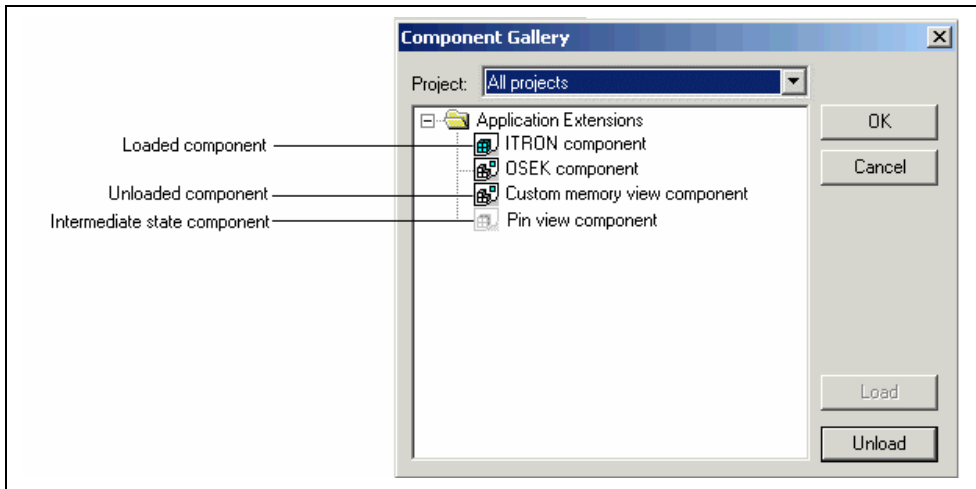

Figure 5.14: Component Gallery
2. The component gallery dialog is displayed. This is displayed in figure 5.14.